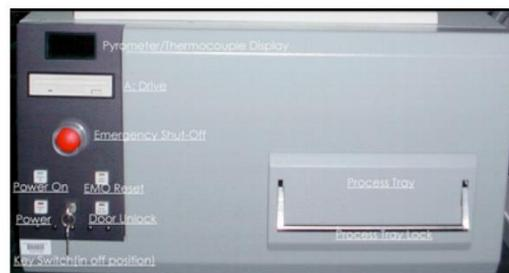

Figure 1. Front panel of the RTP.
- d. **OPEN** the (3) gas lines labeled Argon, Nitrogen and Oxygen (optional) going to the RTP.
3. On the front panel of the RTP, Figure 1, turn the key switch to the right.